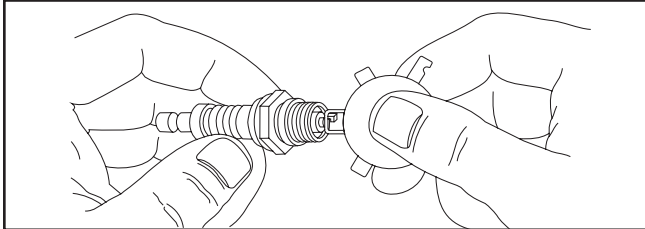

Figure 22: Spark plug
3. Check electrode gap with wire feeler gauge and set spark plug gap to .030 inch (.76 mm) if necessary (Figure 22).